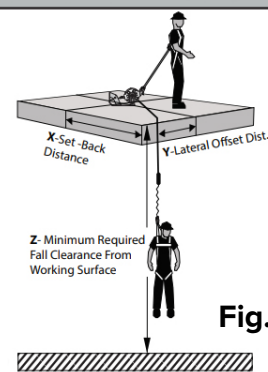

Fig. 8
- The SRL, when required to be used horizontally, may be anchored at or above foot level but never below (See Fig. 8).